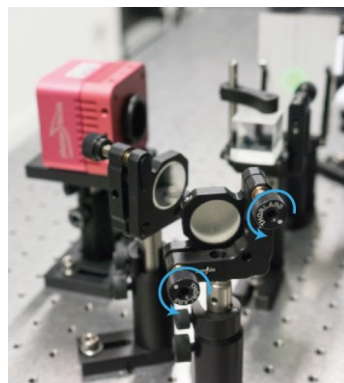

Figure 5: Adjustment of mirror KM2
- e) Now, change the angle of the reference beam by turning the knobs on adjustable mirror KM2. Turn the top knob over approximately 360° , in the counterclockwise direction as viewed from the back of the mount (refer to Figure 5). Do the same for the bottom knob. Observe the camera and its Fourier domain while you do this. Briefly describe what is happening (both in the camera image and in its Fourier transform).